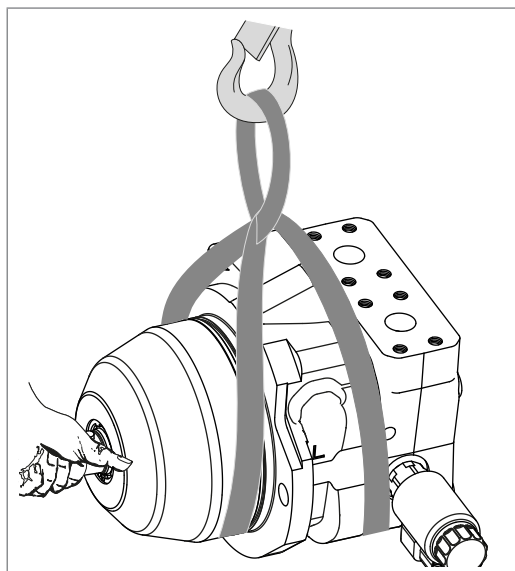

Fig. 5: Transport with lifting strap
- Place the lifting strap around the axial piston unit in such a way that it does not pass over attachments (e.g., valves, piping) and that the axial piston unit is not suspended from attachments (see Fig. 5).